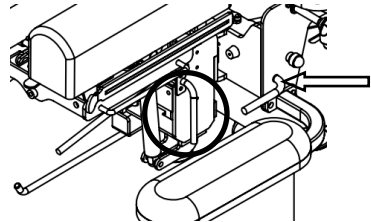

Figure 6
- Pull the control lever (indicated by the arrow) to adjust the Horizontal angle of the head plate. (Figure 6)